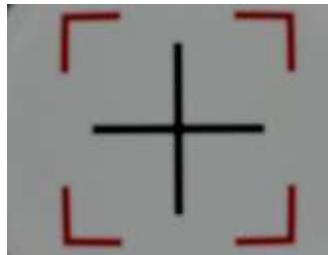

Figure 72. Center Mark on Distortion Test Chart
10. Center the Distortion Test Chart with the camera’s lens. The center of the camera lens should be centered with chart’s center + mark with red box around it (Figure 72) is in the center of the camera’s field of view.